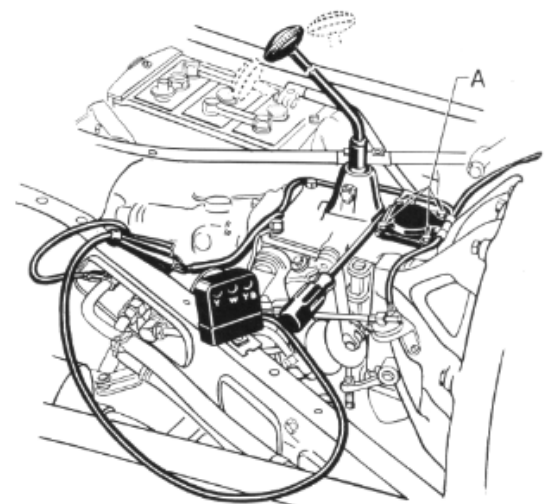

Figure 11
To test, connect the test lamps to the three wires at the power unit junction block and ground the fourth lamp lead. (See Figure 11 for connection of test lamps.) Put the selector lever in low gear and move the manual shifting lever to the left and note the amount of travel before the (YB) lamp lights.
With the lower harness test lamps connected as in Figure 11, put the selector lever in neutral. Move the manual shifting lever forward toward second until the (YB) lamps light.. then backward toward high until the (Y) lamp lights. The movement from neutral should be the same before either lamp lights.